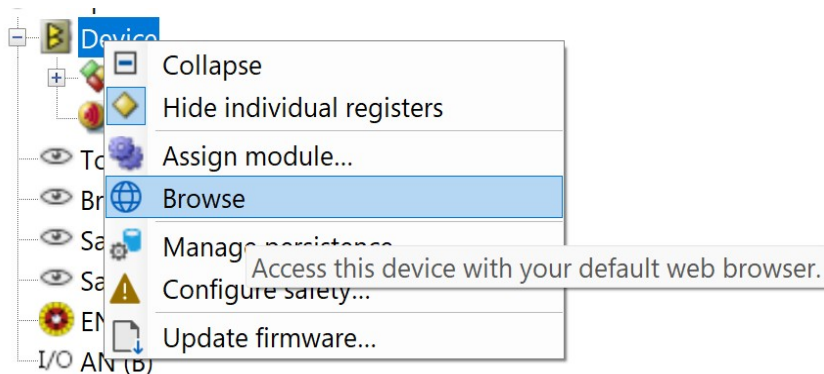

Figure 26: Browse a device’s web interface
2. Download directly from the device’s web interface. You can open the web interface of a device by right-clicking it and select Browse, refer to Figure 26. After having opened the device’s start page, go to directory in order to find all TAM Snapshots available. Select the most recent one by checking the timestamp.